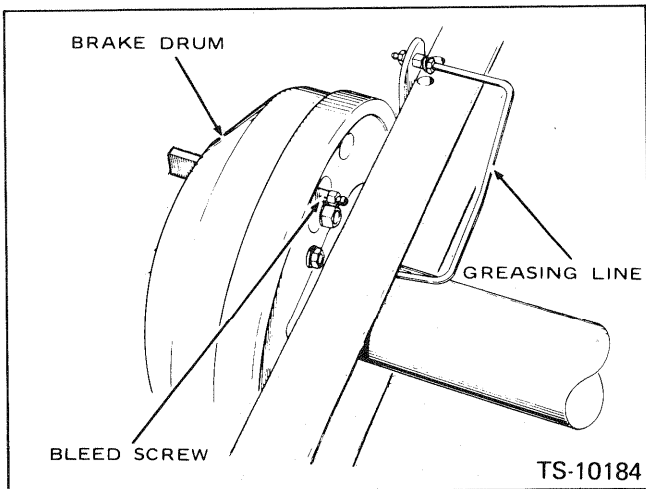

Fig. 13-3 Bleed the Brake
2. With the aid of a helper, open the bleed screw on the cylinder in Fig. 13-3 and depress the brake pedal to expel any air and fluid from the lines.